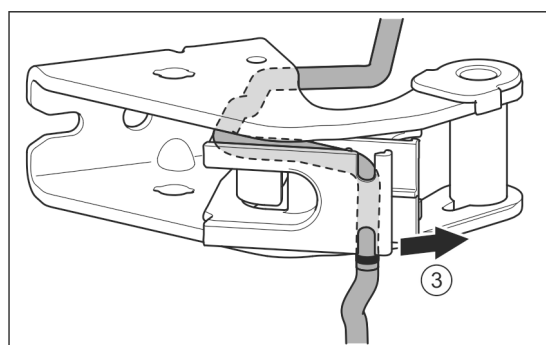

Fig. 30
- ▶ Remove the cable from the guide. Fig. 30 (3)